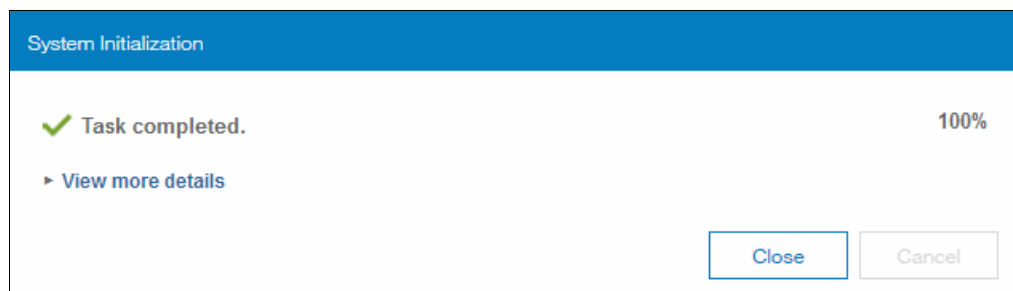

Figure 6-72 System initialization task completed pane
28. The System Initialization Task completed pane is displayed (Figure 6-72).